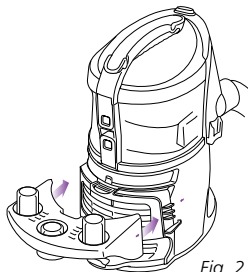
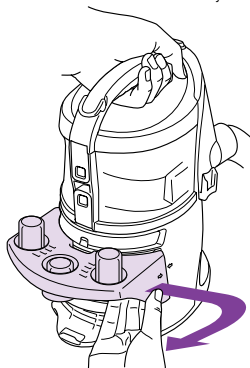

Fig. 2
Fig. 3
- 2 Insert the removable tool caddy onto the back of the Canister Vac. (fig. 2) To remove the tool caddy, hold the vacuum by the handle, pull out slightly from the right side and then remove it from the Canister Vac. (fig. 3)